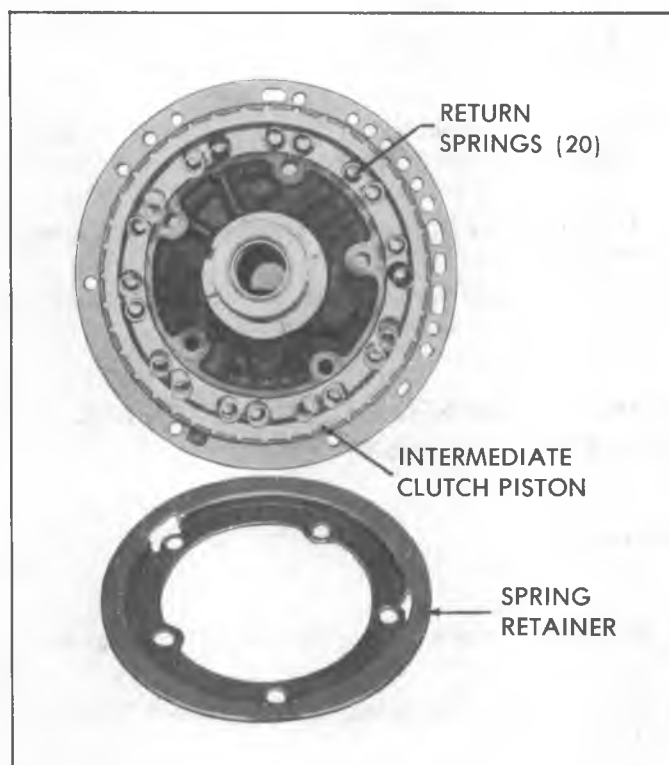

Fig. 57M--Intermediate Clutch Spring Retainer, Return Springs and Piston
- Remove intermediate clutch spring retainer, twenty(20) intermediate clutch return springs and the intermediate clutch piston assembly (fig. 57M).